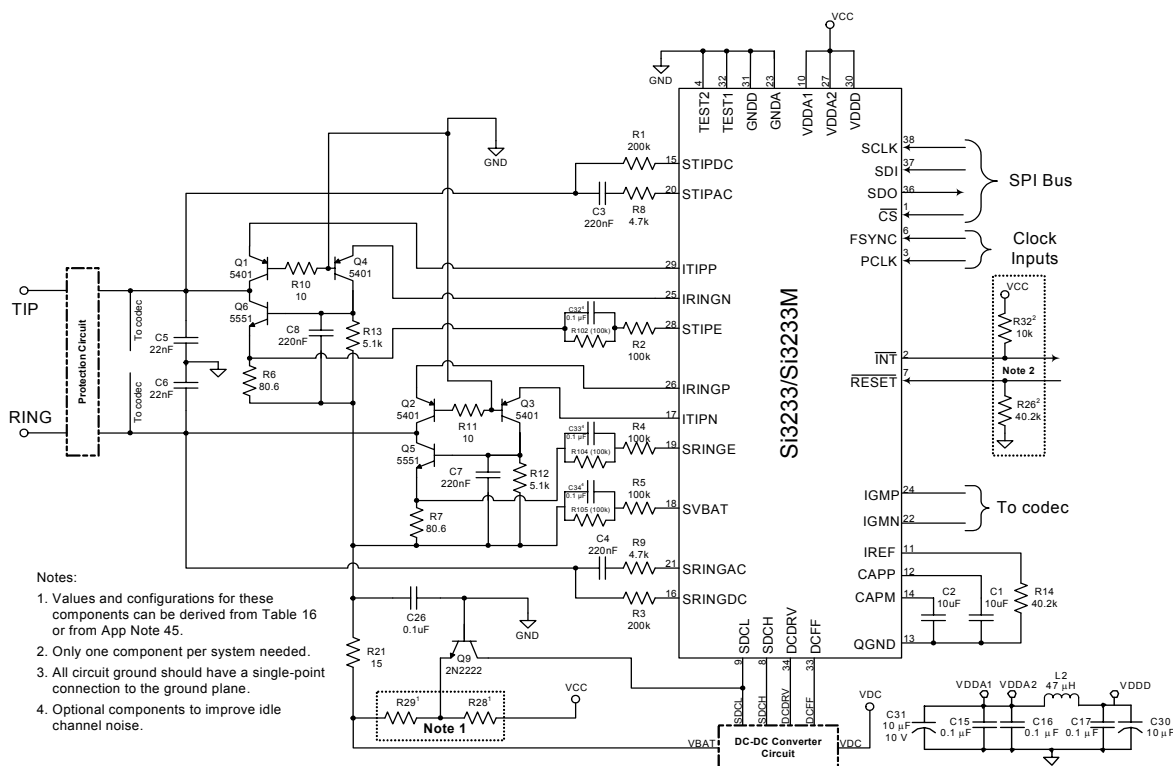

Figure 6. Si3233/Si3233M Typical Application Circuit Using Discrete Components
The Si3233 ProSLIC® is a feature-rich low-voltage CMOS device that provides all the SLIC, DTMF, and signal generation functions needed for a complete analog telephone interface when connected to an external codec. The ProSLIC performs all battery, overvoltage, ringing, supervision, and test functions. Unlike most monolithic SLICs, the Si3233 does not require externally supplied high-voltage battery supplies. It generates all necessary battery voltages from a positive dc supply using its own dc-dc converter controller. Two fully programmable tone generators can produce DTMF tones, phase continuous FSK (caller ID) signaling, and call progress tones. The Si3201 linefeed interface IC performs all high voltage functions. The Si3201 can also be replaced with low-cost discrete circuits as shown in the typical application in Figure 6.
- External resistors R8 and R9 are changed from 470 Ω to 4.7 k Ω . See the typical application circuits in Figure 3 on page 12 and Figure 6 on page 15.